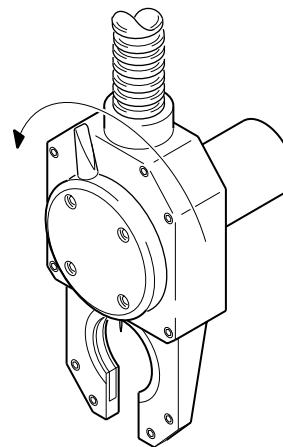

Figure 21 Releasing the Locking Lever
1. Rotate the locking lever on the weld head counter-clockwise until it stops. See Figure 21.